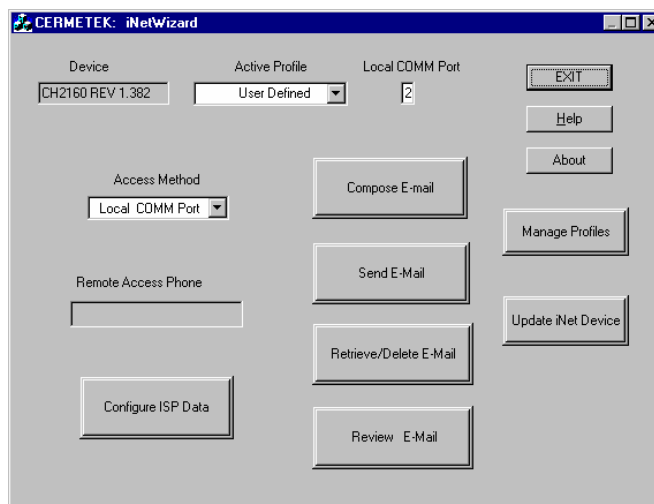
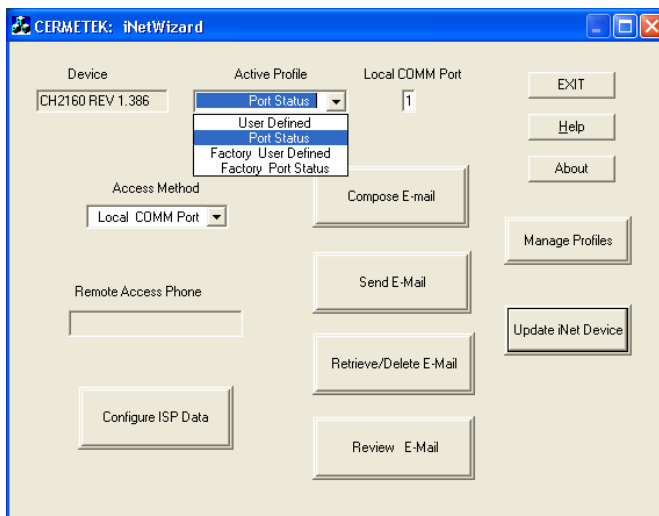

Figure 17. iNetWizard® Opening Window After Auto Connect and Query Activity.
Figure 24. Opening Window with Port Status highlighted per Example 4.
- Step 4. **iNetWizard®** will immediately attempt to auto connect to the iNet product using the COMM PORT number specified. The QUERYING INET PRODUCT message will appear superimposed over the existing menu screen. This message will alternately highlight and fade to gray indicating communication activity with the iNet product. The querying message will disappear when the querying activity is completed. Note that the DEVICE Information dialog box now contains the iModem Product name and firmware revision; and the RETRIEVE EMAIL button is active. See Figure 17.
Step 1. Referring to Figure 17 (Opening Window), click on the down arrow on the Active Profile dialog box. Highlight, then single click on the Port Status item. See Figure 24.
- Step 5. Referring to Figure 17 (Opening Window), click on the down arrow on the Active Profile dialog box. Highlight, then single click on the User Defined Factory. This will cause **iNetWizard®** to transfer to the Local Configuration Profile the factory default parameters for the User Defined email message. During the transfer process, both the CONFIGURING INET PRODUCT and the QUERYING INET PRODUCT messages will be displayed.